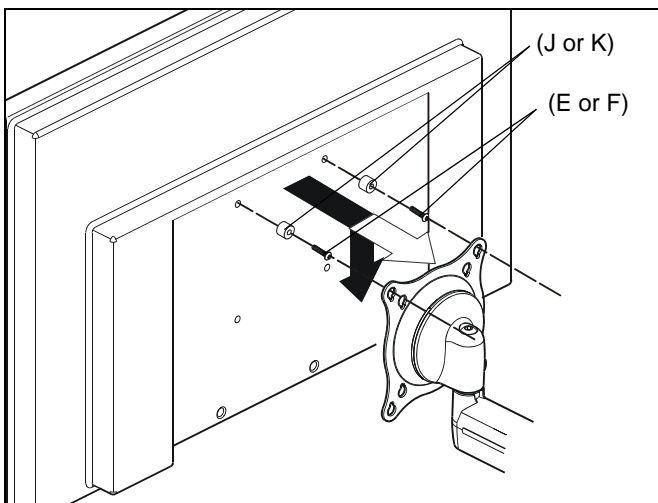

Figure 4
4. Using Phillips screwdriver, carefully install two screws (E or F) through corresponding spacers (J or K) and into the *upper* mounting holes on the display. Thread screws completely into display, then back out 3 complete turns. (See Figure 4)
5. Pick up and align display so that screws (E or F) (installed on the back of the display in the previous step) fit into the top two mounting holes on the Centris bracket; rotate the bracket as required. Lower the display firmly into place. (See Figure 4)